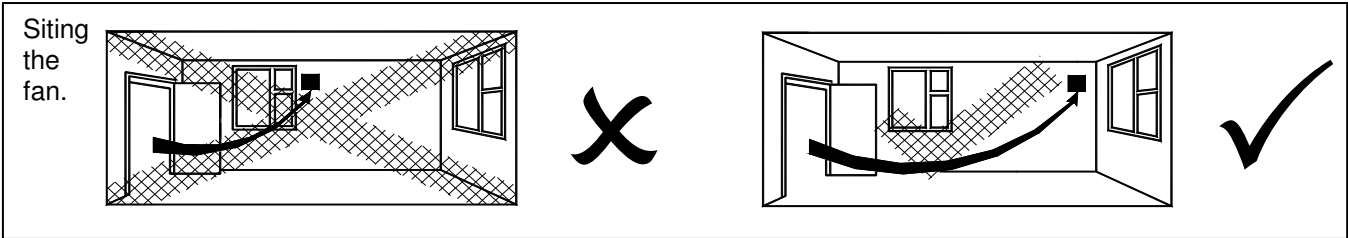

Fig.1 Continuous trickle (6l/s or 8l/s) with pullcord boost (13l/s)
1. Select and follow the appropriate wiring diagram. (Fig. 1, 2 or 3)